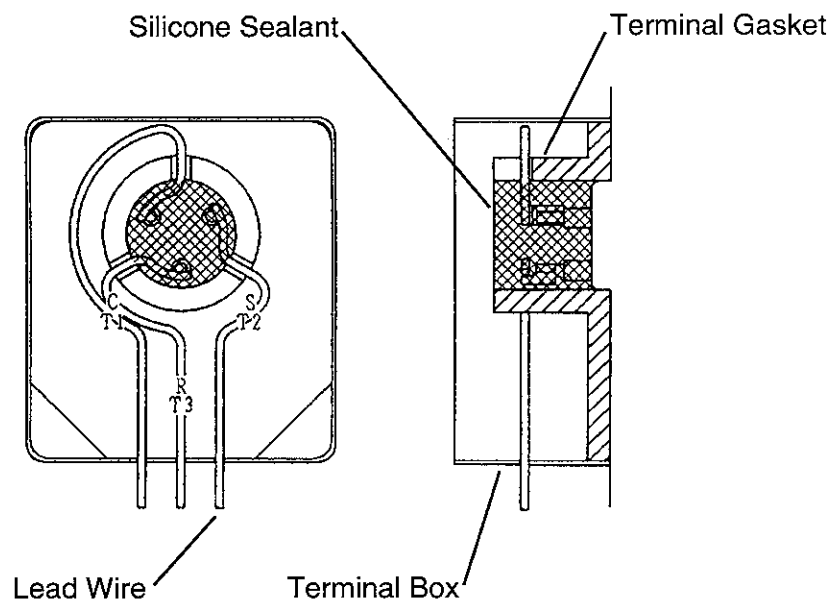

Fig. 1
Be sure to reapply the recommended treatment at the Compressor terminal and its vicinity. Otherwise operation of the icemaker at a high temperature and high humidity can cause an electric shock or fire, or generate corrosion and shorten the service life. See Fig. 1, page 32.
- 18) Fill the recommended silicone sealant (RTV 162, GE Silicones) into the cylindrical part of the Gasket up to the top end. See Fig. 1.